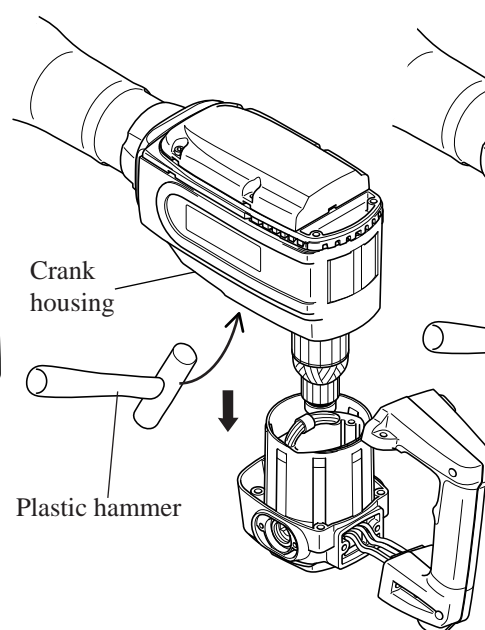

Fig. 5
- (4) Strike crank housing as illustrated in Fig. 5. Then, motor housing can be separated from crank housing. See Fig. 5.